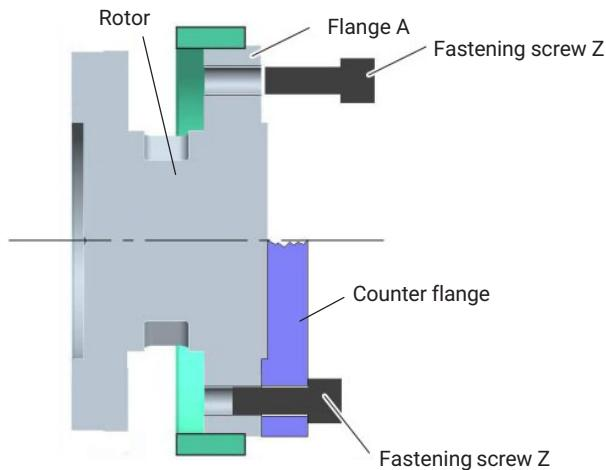

Fig. 6.4 Mounting the rotor
- ▶ For a rotor connection with bolts (see Fig. 6.4), use eight hexagon socket screws to DIN EN ISO 4762 with property class stated Tab. 6.2 in a suitable length (dependent on the connection geometry, see Tab. 6.2 on page 20).